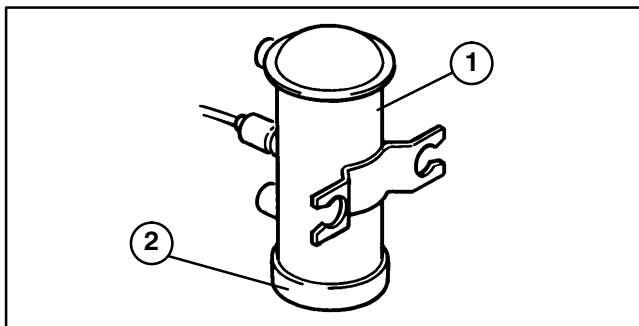

Figure 56
1. Fuel pump (Fig. 56) is located on inside of left frame channel below tool box.
Dupe old figure 56